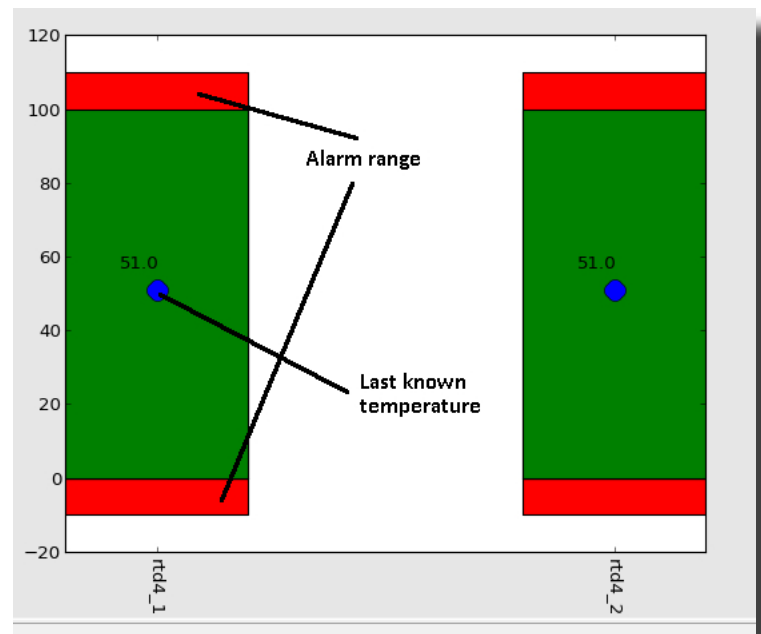

Figure 24: Temperature View Application - Color Meaning
2. The red area on the plot is the alarm range. The green area is the secure range for the temperature, and the blue circle is the last known temperature for the device (Figure 24).